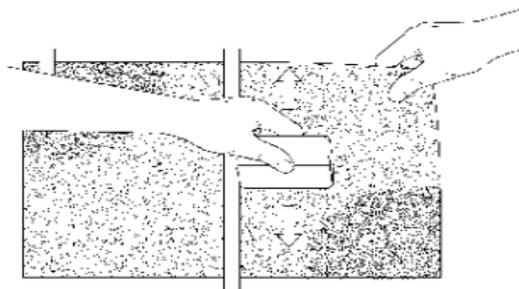

Figure 10. Squeegee a Centre Hinged Graphic
6. Hold the graphic away from the surface with one hand. Allow the adhesive to touch the substrate as pressure is applied during squeegeeing. Squeegee the graphic beginning at the center of the tape hinge and working outward to the closest edge. See Figure 10. Use firm pressure on the plastic applicator and overlap the strokes.